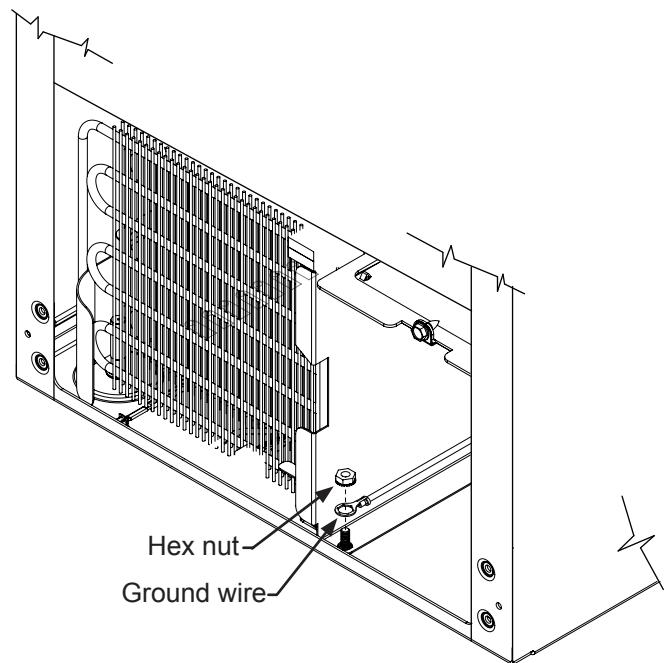

Figure 5
5) Take the 18" wire harness from the drain pump kit and connect it to the main board where the power cord connector was removed. Remove the hex nut on the front carriage bolt with a $\frac{3}{8}$ " open end wrench (see Figure 5) and attach the ground wire under the hex nut. Tighten the hex nut. Slide the plug end of the 18" harness through the unit so it can be accessed from the back of the ice machine.